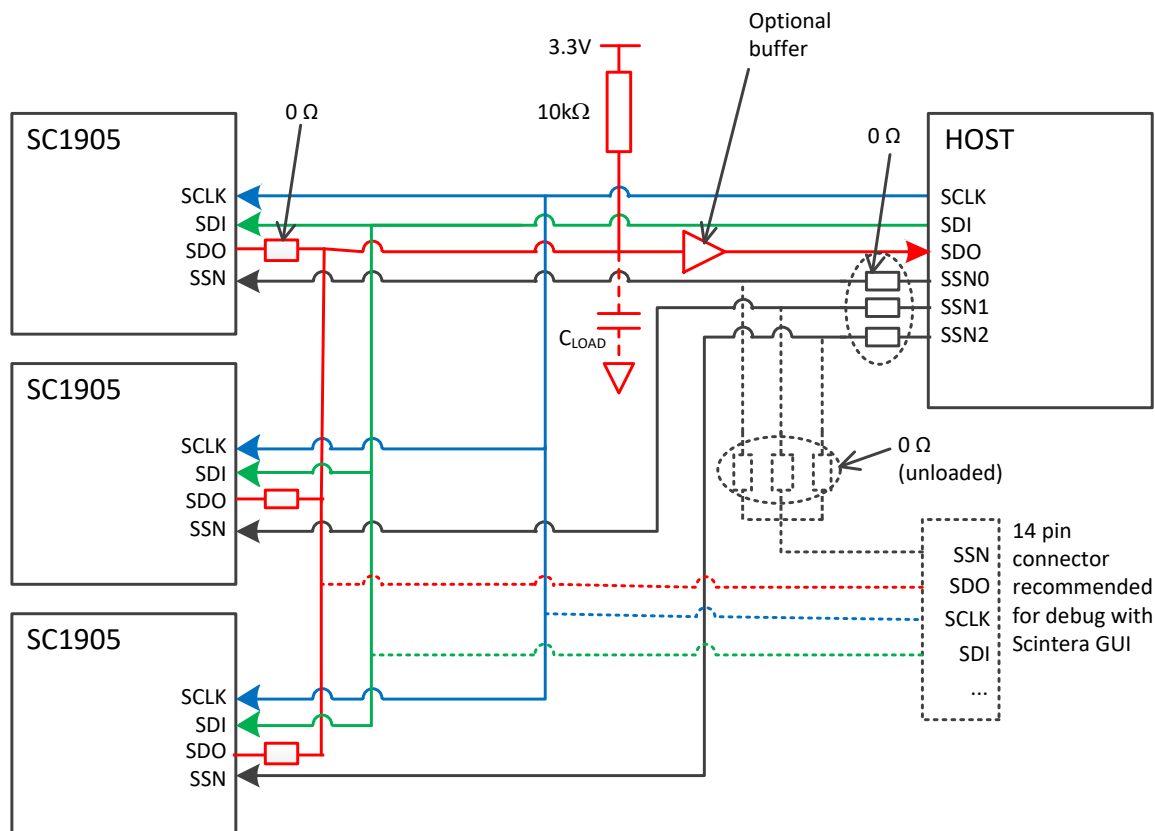

Figure 23. Host SPI connection for multiple SC1905 applications.
The SDI, SDO and SCLK signals can be shared amongst several SC1905 (**Figure 23**). One SSN per SC1905 is needed to communicate with a single linearizer. Special care must be taken when connecting long PCB traces at the SDO output since the capacitance (C_{LOAD}) increases. Refer to section 9.2.6 to calculate the maximum speed at which the SDO pins can be read (including the parasitic load capacitance C_{LOAD}).
The GUI can support only one RFPAL. Therefore, for multi-RFPAL applications it is suggested to include layout provisions for a series 0Ω resistors in the SDO line of each RFPAL as shown in Figure 23 and connect this component only for the SC1905 being tested to avoid any conflict with the inactive SC1905 while working with the GUI.
- If an SDO buffer is needed, the buffer must be placed after the point (a) as described in Figure 23.*